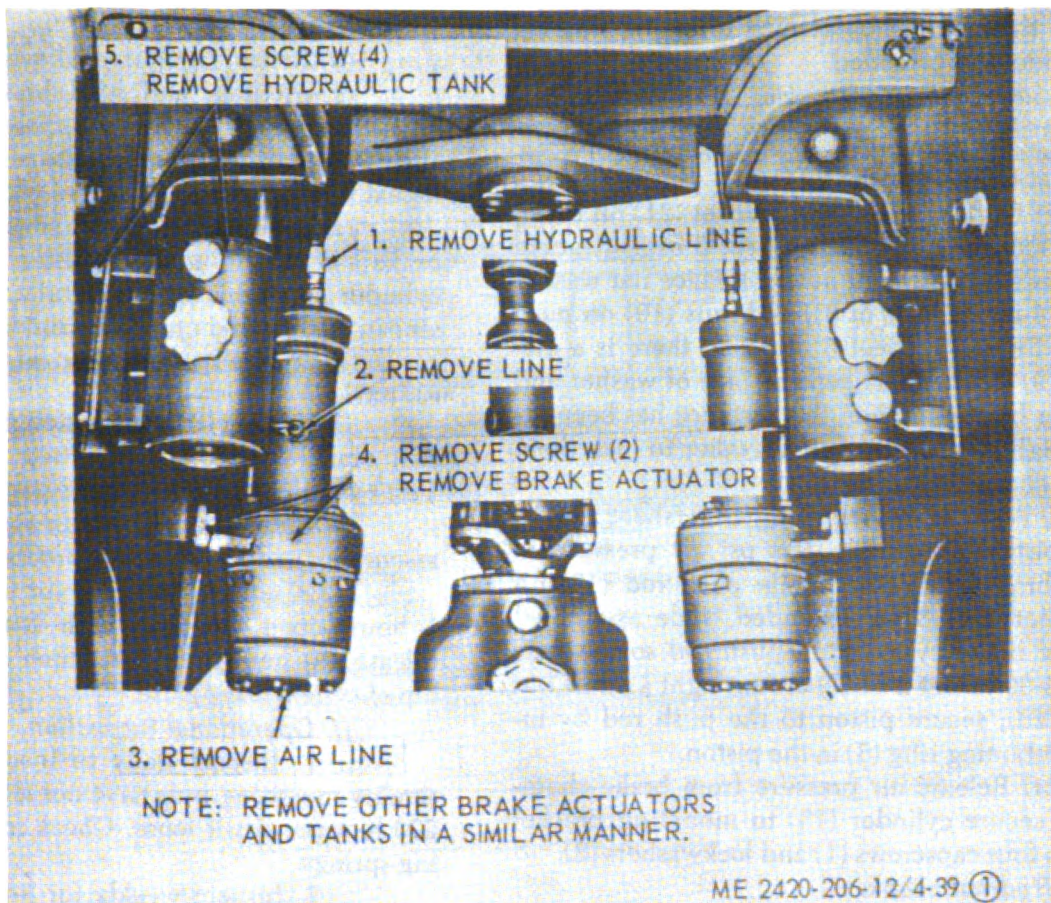

Figure 4-39. Brake actuator and hydraulic tank, removal, disassembly, reassembly and installation (sheet 1 of 3).
b. Removal and Disassembly. Remove and disassemble brake actuator and hydraulic tank as illustrated in figure 4-39.
(1) Brake actuator.
(a) Remove capscrews (1, Fig 4-39 (sheet 2 of 3)) and lockwashers (2) that secure cylinder (18) to mounting bracket (21). Apply air pressure to air brake chamber to actuate brake. While cylinder is extended away from mounting bracket (21), remove retaining ring (3) that secures push rod (19, Fig 4-39 (sheet 3 of 3)) to the piston (5, Fig 4-39 (sheet 2 of 3)); remove piston and associated parts from the push rod. Slowly release air pressure from chamber.
(d) Remove two nuts (19) and flat washers (20) from push rod (19, Fig 4-39 (sheet 3 of 3)). Remove nuts (1) and lockwashers (2) that secure mounting bracket (21, Fig 4-39 (sheet 2 of 3)) to brake chamber. Remove capscrews (4), lockwashers cover (7, Fig 4-39 (sheet 3 of 3)).
Caution: Do not immerse piston assembly 15, fig. 4-39 (sheet 2 of 3) in cleaning solution as it will destroy the internal coated parts of piston.
(2) Clean tank and dry thoroughly. Pour solvent into tank and agitate to remove sludge from interior. Immerse breather in solvent and agitate to remove dust and dirt. Shake out excess solvent.
(3) Inspect actuator and tank for cracks, breaks, and other damage. Check operation of actuator's piston assembly (15) by inserting a smooth, blunt tool into the small opening in the face of piston assembly and pushing forward. If a definite movement cannot be easily obtained, replace piston assembly. If there is movement, apply low pressure compressed air at opening to produce a pressure inside piston assembly. If air passes through, replace piston assembly. Replace defective parts as necessary.
d. Reassembly and Installation. Install tank and actuator as illustrated in figure 4-39.
(a) Lubricate inside of brake chamber body (20, Fig 4-39 (sheet 3 of 3)) and both sides of diaphragm (17) with diaphragm lubricant.
(h) Lubricate bore of cylinder (18, Fig. 4-39 (sheet 2 of 3)) with MIL-L-2104A, Amendment 1, Grade 10. Insert spring (16) into bore of the cylinder.
(k) Position mounting bracket (21) on brake chamber cover (7, Fig 4-39 (sheet 3 of 3)); secure with lockwashers (2) and nuts (1). Place flat washer (20, Fig 4-39 (sheet 2 of 3)) and nuts (19) on push rod (19, Fig 4-39 (sheet 3 of 3)) so there is a distance of 9/16 inch between the face of washer and mounting bracket. When this distance has been attained, tighten the two nuts together to lock them in place.
(l) Position washer (6, fig 4-39 (sheet 2 of 3)) in the piston (5). Apply 100 psi air pressure to actuate brake chamber. While push rod (19, fig 4-39 (sheet 3 of 3)) is extended, slide assembled hydraulic brake cylinder on push rod so the nuts (19, fig 4-39 (sheet 2 of 3)) are up tight against flat washer (20); secure piston to the push rod by installing retaining ring (3) in the piston.